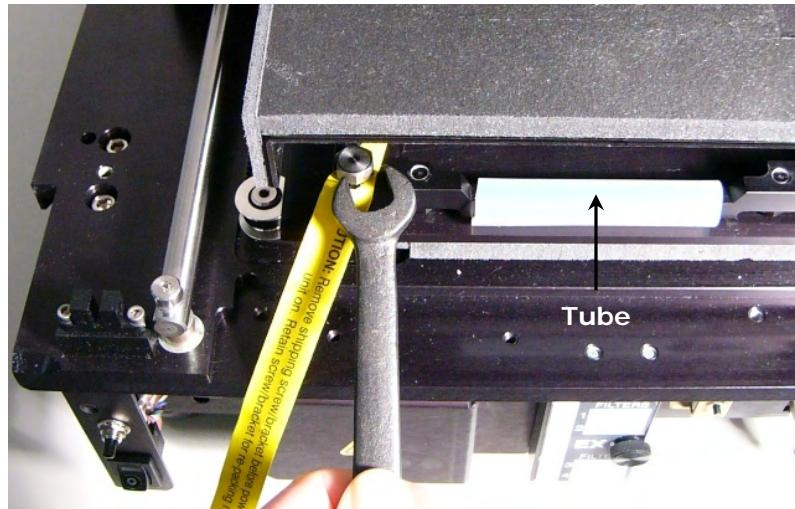

Figure 3: Remove microplate carrier shipping screw and tube
3. As shown in **Figure 3** on the next page: